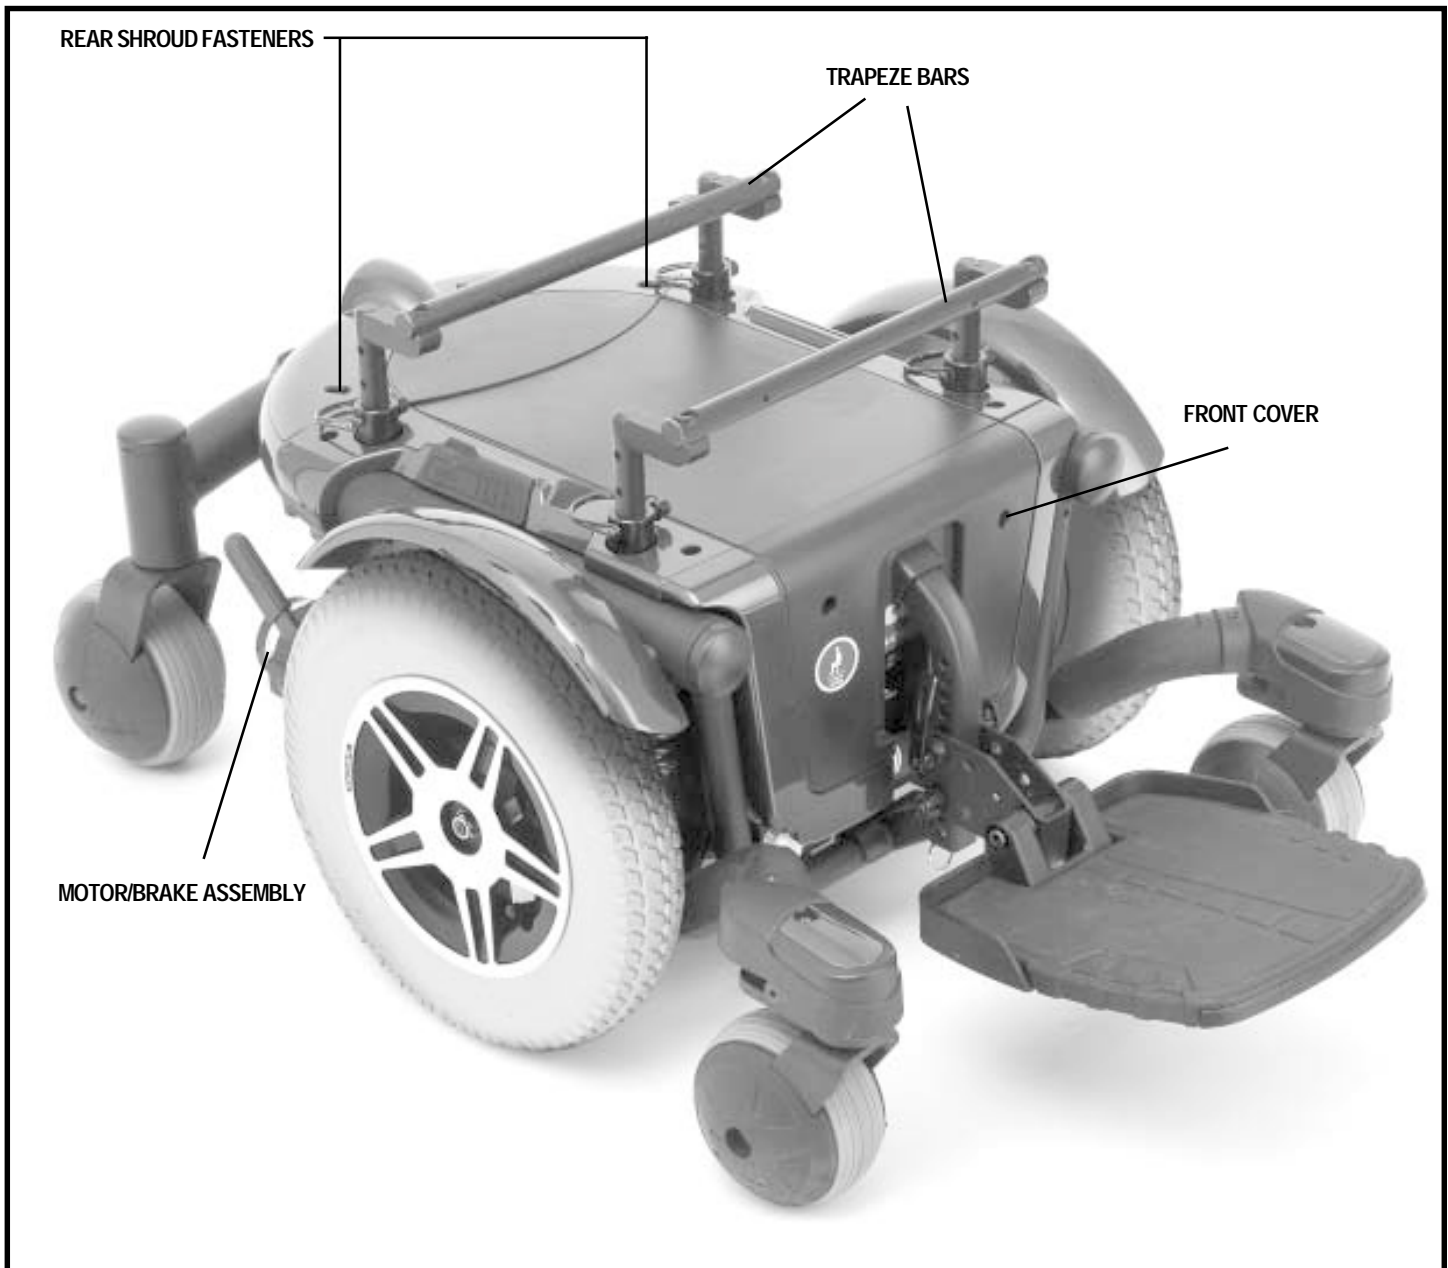

Figure 6. The Jazzy 600 XL Power Base
6. Turn the rear shroud fasteners one-quarter turn in any direction. See figure 6.
2. Loosen the rear shroud fasteners and remove the rear shroud. See figure 6.